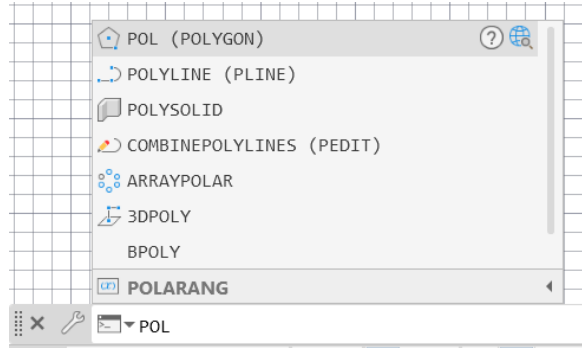

FIGURE 2-4: If you can't find it on the Ribbon or in the tool buttons, just start typing!
- » **Search:** If you're unsure of a command name or you want help on a topic, just start typing in the search bar, at the top of the Application menu. AutoCAD quickly displays a categorized list, complete with links to start commands or to access the online Help system. See Figure 2-4.